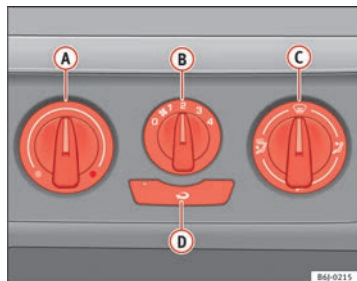

Fig. 100 Heating controls on the dash panel
- Turn the temperature selector **(A)** ⇒ Fig. 100 anticlockwise.
- Turn the temperature selector **(A)** ⇒ Fig. 100 clockwise to select the desired temperature.
- Turn the temperature selector **(A)** ⇒ Fig. 100 clockwise to reach the maximum temperature.
- Turn the temperature selector **(A)** ⇒ Fig. 100 to the heating area. ▶